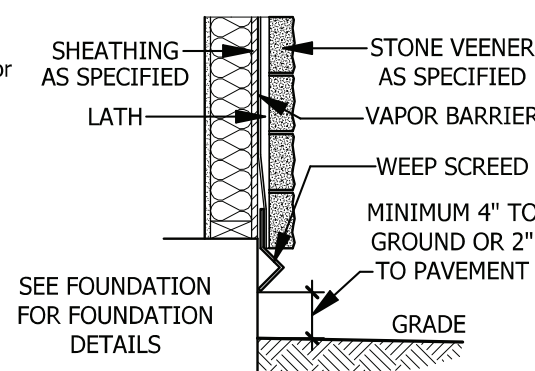

**FIGURE AM110**
**AM110.1 Stairs shall be constructed per Figure AM110.** Stringer spans shall be no greater than 7 foot span between supports. Spacing between stringers shall be based upon decking material used per AM107.1. Each Stringer shall have minimum 3 1/2 inches between step cut and back of stringer. If used, suspended headers shall be attached with 3/8 inch galvanized bolts with nuts and washers to securely support stringers at the top.